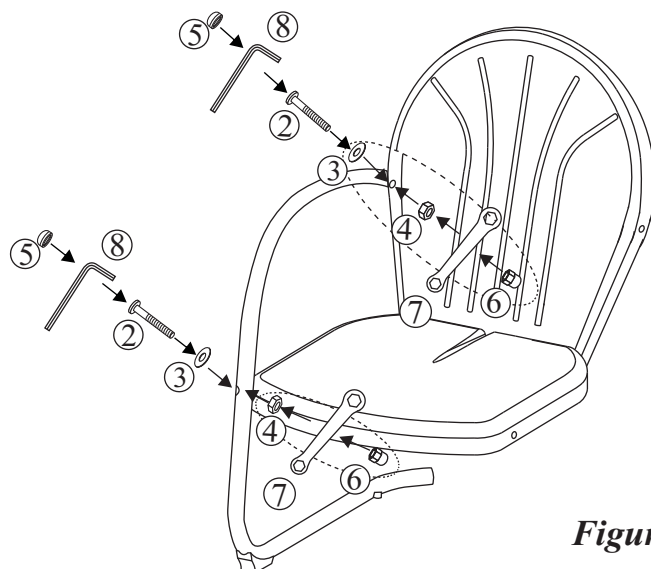

Figure 3
Step 3:The holes in the chair seat/chair back assembly must be perfectly aligned with the holes in the chair leg assembly. While one person holds the chair seat/chair back assembly as shown in *(Figure 3)*, have another person attach to the chair leg assembly. Add a E 6.5 x 1.0mm washer (3) to Long Allen Bolt (2) and insert through aligned holes in the rear arm and chair back.